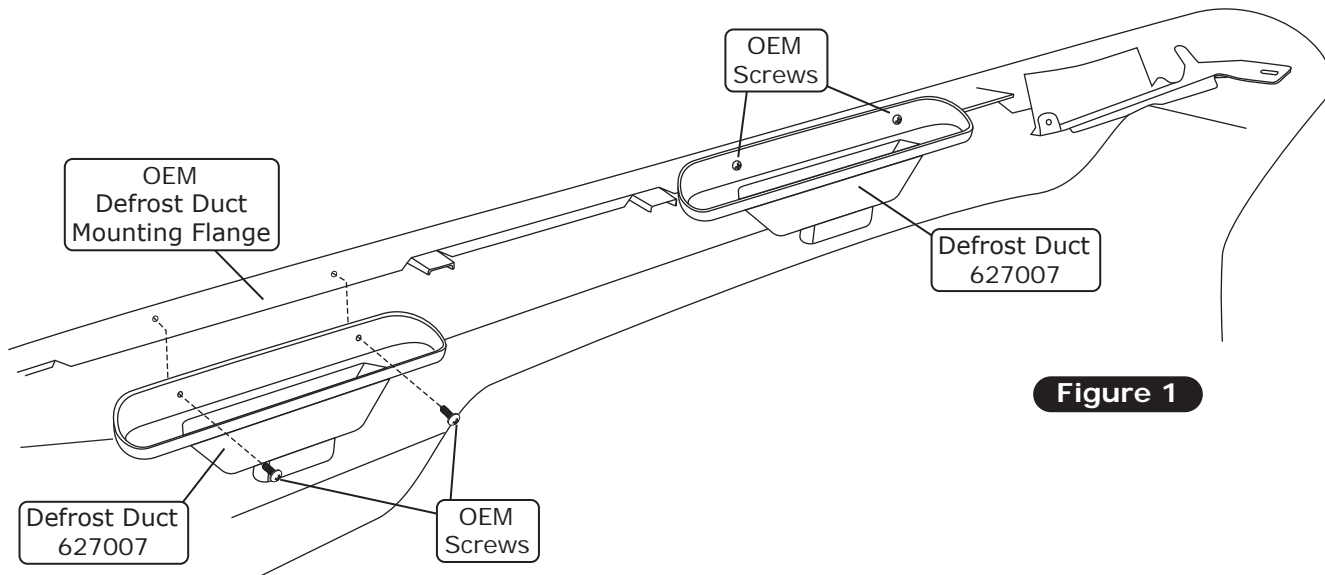

Figure 1
1. Install the (2) defrost ducts under the dash, then secure them using the OEM screws (See Figure 1, below).